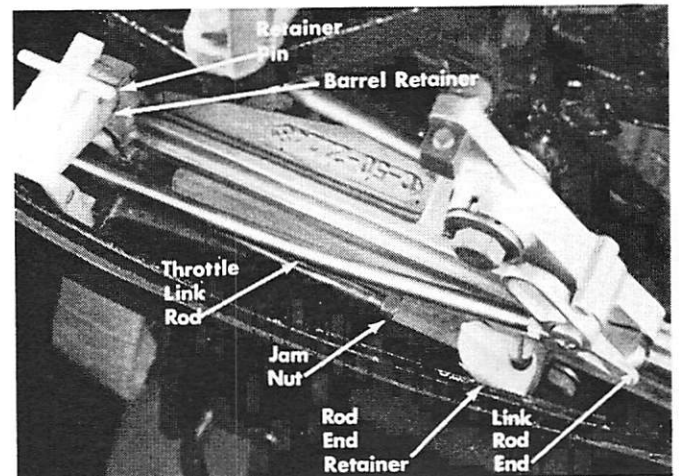

Figure 9. Throttle Link Rod Installed
11. With vertical lever in this position and handle grip positioned as outlined in Step No. 9, adjust throttle link rod end, as required, to place rod end over peg on vertical lever. (Figure 9)
12. Position rod end retainer over link rod end. (Figure 9)
NOTE: Barrel retainer (Figure 9) is not required when steering handle is installed. Barrel retainer may be removed by tapping out retainer pin. (Figure 9)